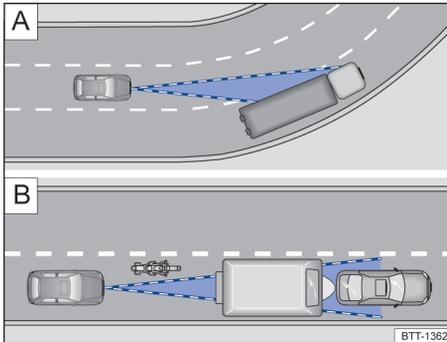

Fig. 108 **A** Curve condition. **B** Vehicles outside the radar sensor range
The radar sensor always performs straight-line measurements. Therefore, vehicles in sharp curves may be accidentally detected or vehicles in front may not be detected → Fig. 108 [A].
- Vehicles driving out of the sensor's range, close to the vehicle, such as motorcycles → Fig. 108 [B].